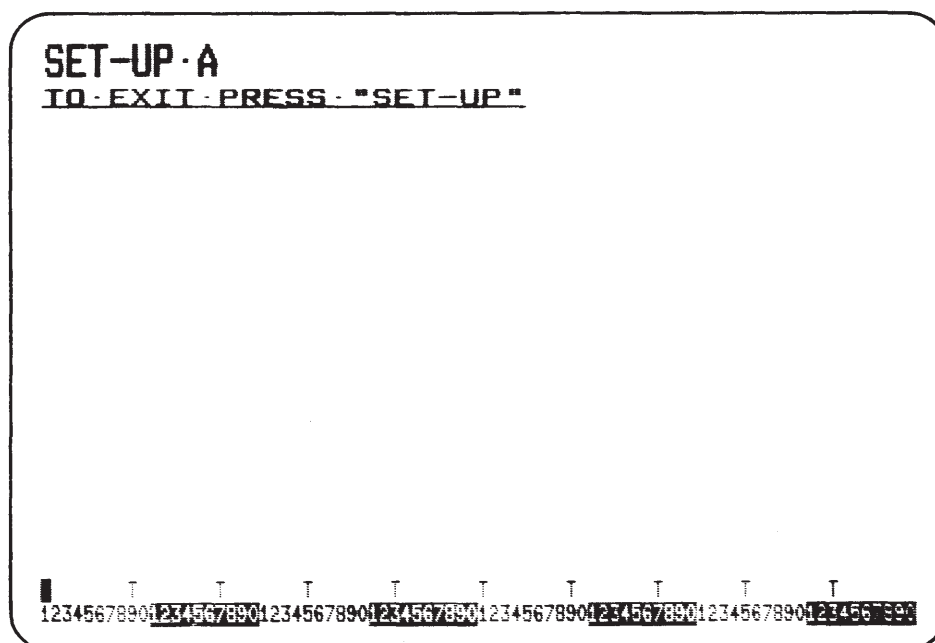

Figure 1-4
**SET-UP A** – To enter SET-UP A, press the SET-UP key. The display will now have a presentation similar to Figure 1-4. The bottom line of the display consists of a "ruler" which numbers each character position available on a line. The location of each tab stop is shown by a "T" placed above the ruler. If the tab stop(s) set are those desired, you may exit SET-UP mode by pressing the SET-UP key again or you may now change the tabs to meet your requirements.